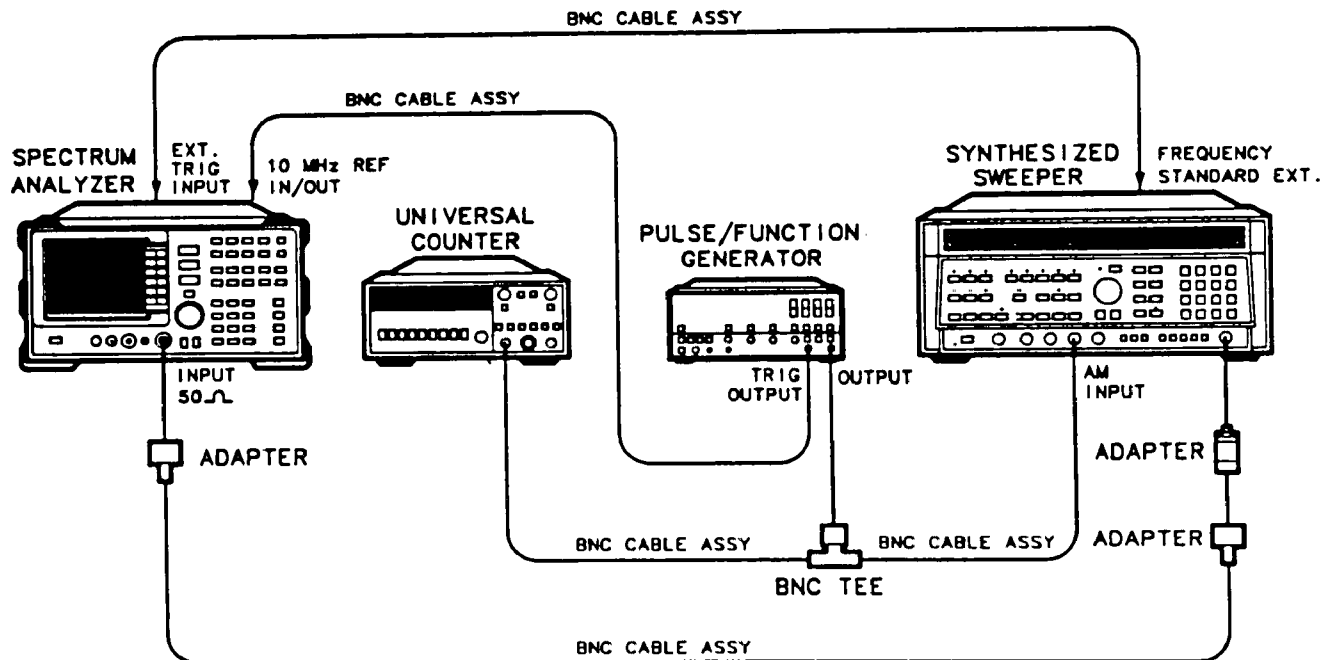

Figure 3-22. Sweep Time Accuracy Test Setup
1. Connect the equipment as shown in Figure 3-22, with the BNC cable from the HP 5316A connected to the HP 8562A/B EXT TRIG INPUT.